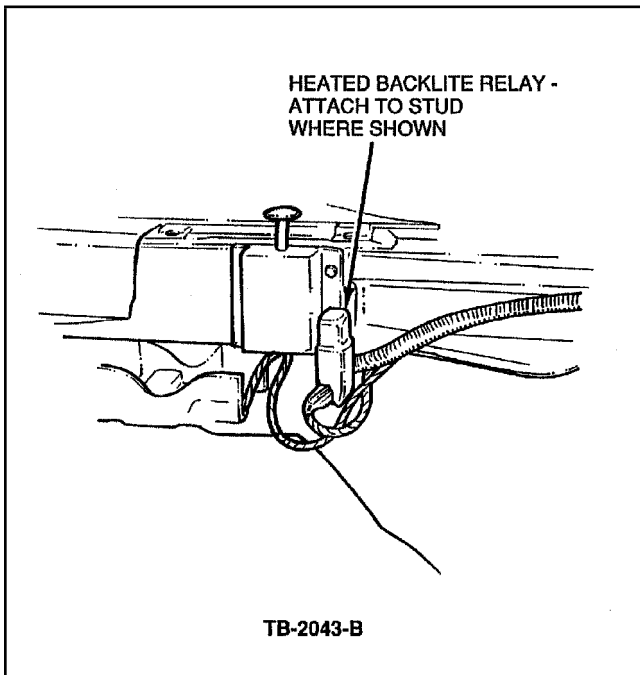

Figure 14 - Article 91-20-2
26. Install and connect heated backlite relay, Figure 14.